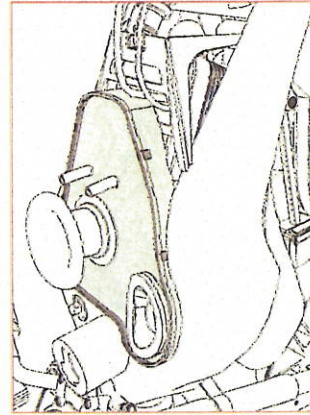

Figure 7
5. Remove the 4 screws that attach the airbox floor. (Figure 7)